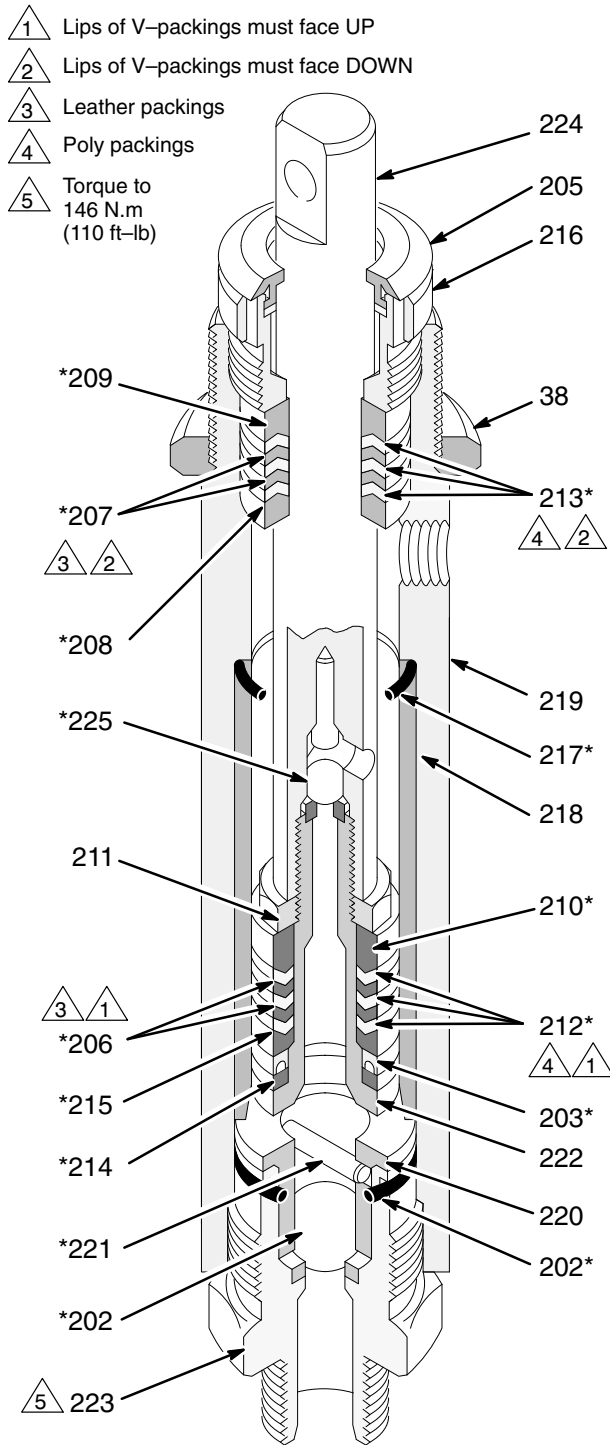
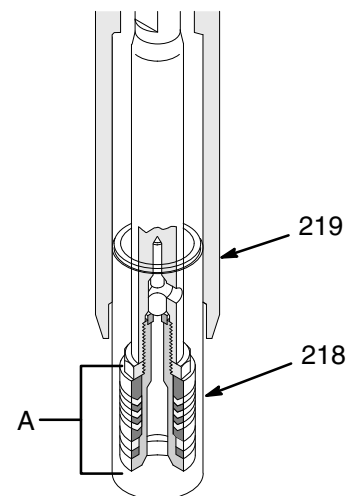

Fig. 17
Fig. 20
**NOTE:** Alternate leather and plastic packings. The lips of the throat “V” packings must face down. The lips of the piston “V” packings must face up. The lips of the U-cup seal (203) face down. Incorrect installation damages the packings and results in pump leaking.
1. Check the outside of the piston rod (224) and the inside of the sleeve (218) for wear. If the parts are worn, new packings will not seal properly. Replace these parts if needed.
2. Stack these parts onto the piston valve (222): the backup washer (214), seal (203\*), female gland (215\*), alternate the three plastic packings (212\*) and the two leather packings (206\*), and the male gland (210\*). See Fig. 17.
8. Place a new seal (217\*) into the cylinder and coat with oil. See Fig. 17.
9. Install these parts in the top of the cylinder (219): the male gland (208\*), alternate the three plastic packings (213\*) and the two leather packings (207\*), and then install the female gland (209). See Fig. 17.
10. Loosely install the packing nut (216) and plug (205). See Fig. 17.
11. Coat the piston rod and packings with oil. Carefully slide the assembly **into the top of the sleeve** (218).
12. Slide the sleeve/piston rod assembly (A) **into the bottom of the cylinder** (219). See Fig. 20.
13. Screw down the cylinder locknut (38) until it is finger tight at the bottom of the external cylinder threads.
14. Place the intake valve (223) in a vise. Install a new o-ring (202\*). Screw the pump cylinder onto the intake valve. Torque to 146 N.m (110 ft-lb). See Fig. 17.